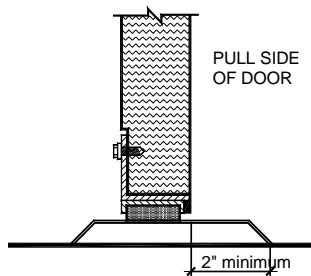
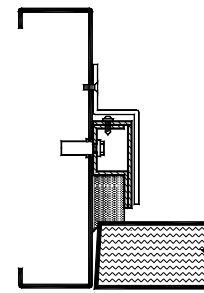

FIGURE 5
FIGURE 6
**B.** Install the L-Frame door bottom seal (**Fig. 5**) with the 1/4" wood screws provided and then adjust it to the highest position. At this point, all other mortised and surface applied hardware supplied by others can also be installed. Note that heavy duty offset hardware mounting brackets (**Fig. 6**) are provided for all hardware intended to be mounted to the frame stop. No hardware should be mounted directly to the seal assembly. Prior to installation of perimeter seals, check the door for proper clearances (1/8" at edges and meeting stiles, 1/8" at top). The weight of these doors often requires minor shimming of hinges in order to square them in the opening and slotted metal shims which can be placed under the hinge are provided for this purpose.